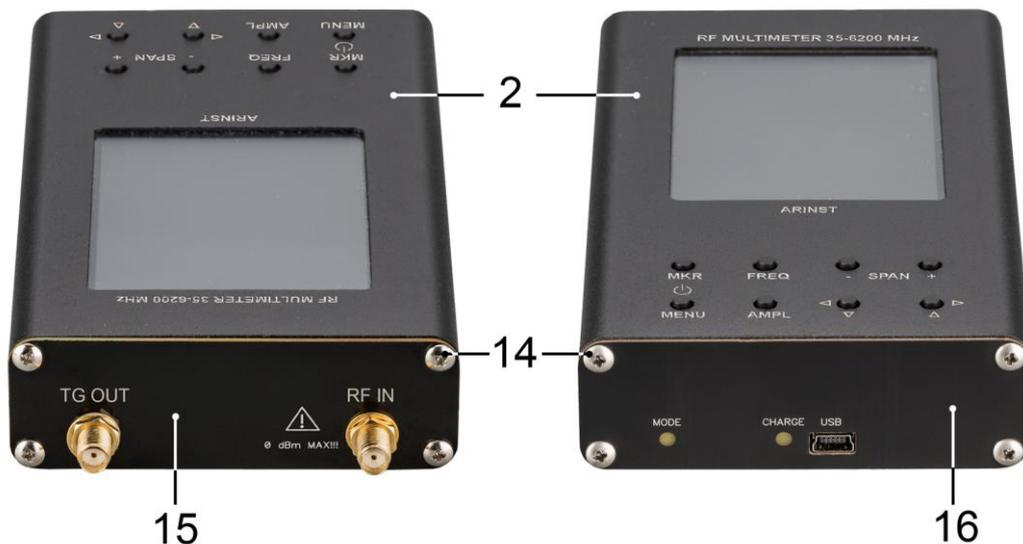

Figure 9.4.2 – Disassembly of the device case
9.4.4. Remove the 4 screws (14) on the front cover (15) of the appliance. Then remove the top 2 screws (14) of the back cover (16) of the appliance. (Figure 9.4.2).